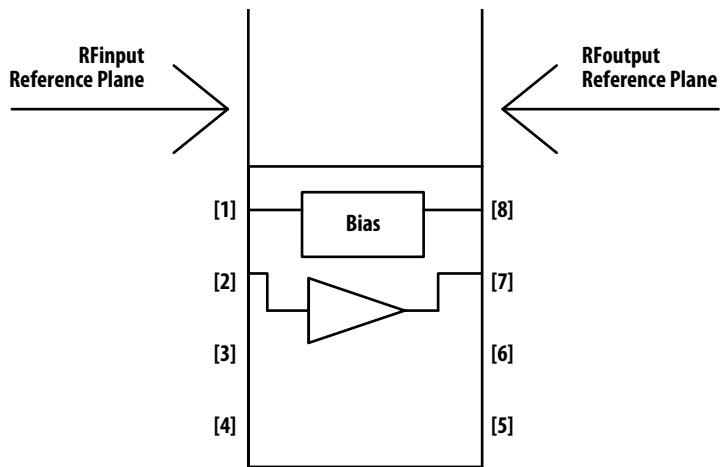

Figure 21.
- Measurements are conducted on 0.010 inch thick ROGER 4350. The input reference plane is at the end of the RFin pin and the output reference plane is at the end of the RFout pin as shown in Figure 21.